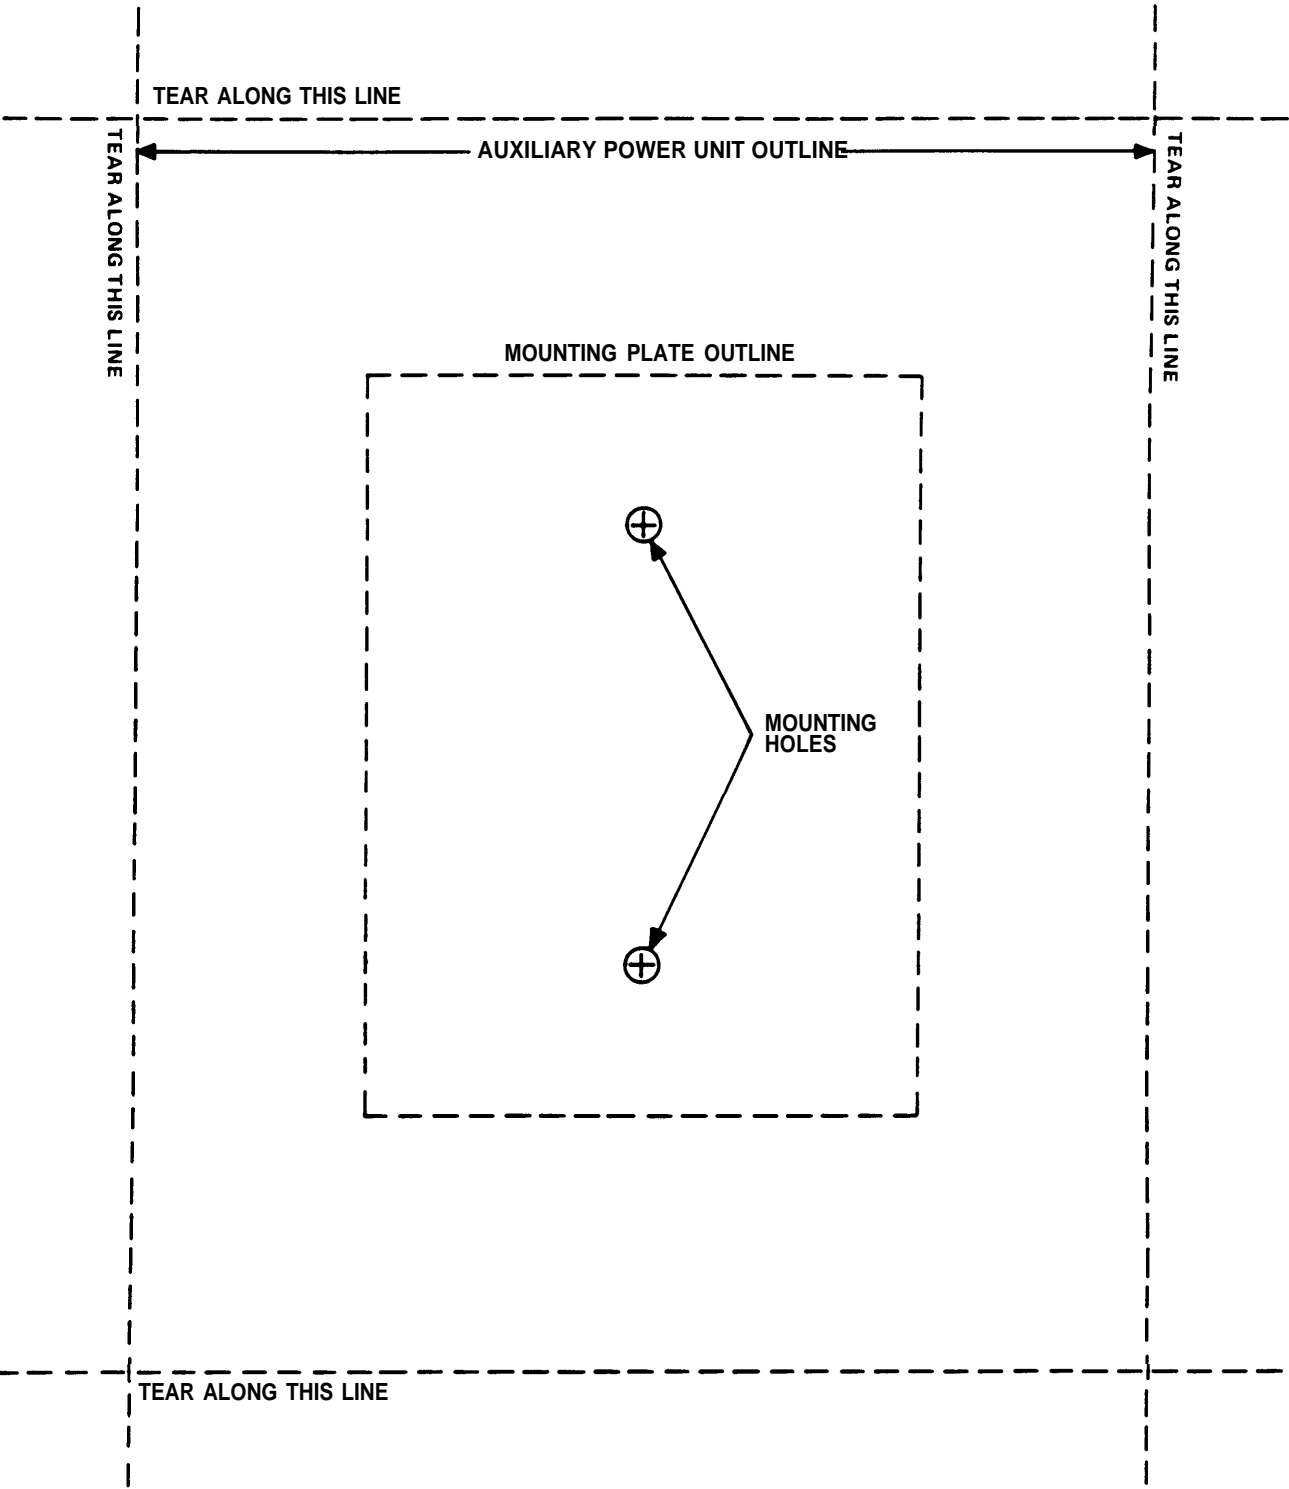

**Figure 5**
2. Make the necessary connections (see Connections and Figure 5).
4. Plug one end of the ac line cord into the opening labeled "AC Input" on the auxiliary power unit, and then plug the other end into the ac wall outlet (see Figure 5).